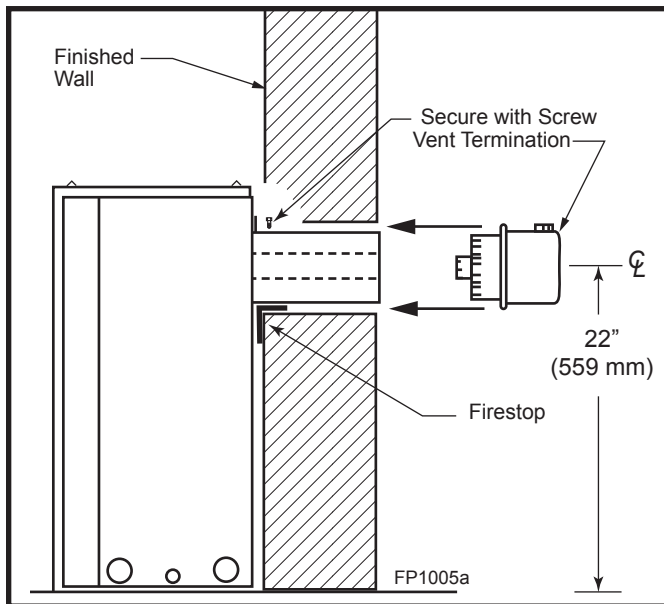

Fig. 19 Side view of final unit location.
Twist the termination collar so it locks onto fireplace collars. Run screw through tab to keep collar from turning. (Fig. 19)
4. Once the collar is twisted onto the fireplace collar, secure with a screw through the tab. (Fig. 19)